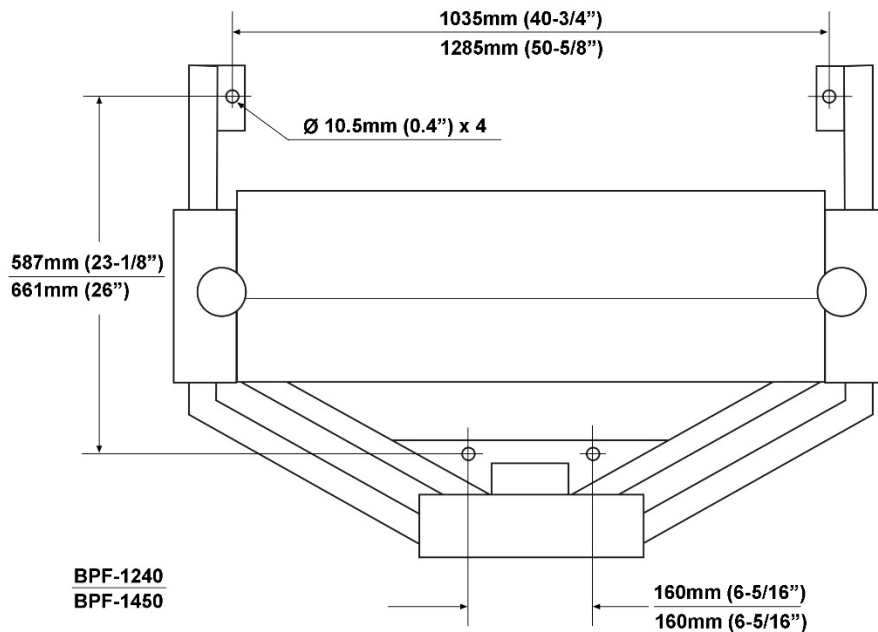

Figure 1
2. Attach the two leg extensions (11) with the provided socket head screws and flat washers.
3. Secure brake to floor using lag screws or similar system. See diagram, Figure 1. Also level the brake; use shims if needed.
4. The stop collar screw (16) has been tightened for shipping purposes. This screw must be loosened to allow clamping machine adjustments.